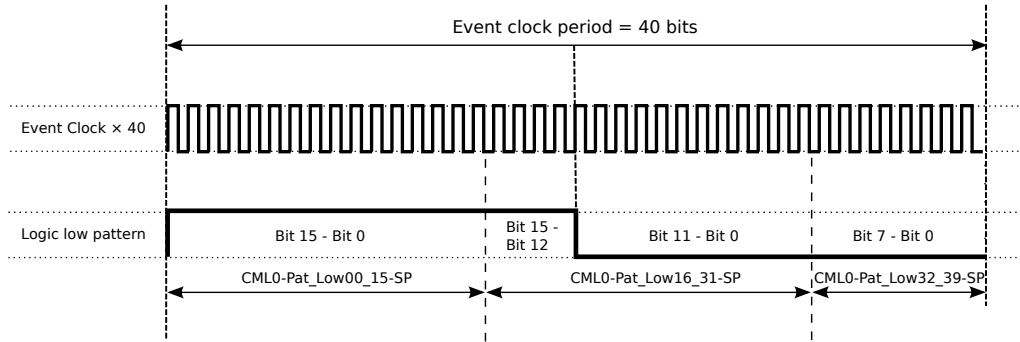

Figure 4: Generate the event clock
This tutorial demonstrates how to configure CML0 output of EVR-VME-300 to generate a clock signal, that has the same phase and frequency as the event clock. To achieve this, the **FrontUnivOut6** output source is set to **logic low** and the CML outputs are enabled. This causes the logic low pattern of the CML pattern mode to be continuously outputted. The configurable pattern, as seen in Figure 4, is 40 bits long and is sent out with a bit rate of 40 times the event clock rate. It is configured to replicate the event clock phase and frequency.
- CML0-Pat_Low00_15-SP=0xFFFF: Set logic low pattern bits 0-15. The Figure 4 shows that the bits 15-0 must be set as follows: 1111 1111 1111 1111, which translates to 0xFFFF. Each bit represents 1/40 of the event clock period.
- CML0-Pat_Low16_31-SP=0xF000: Set signal low pattern bits 16-31. The Figure 4 shows that the bits 15-0 must be set as follows: 1111 0000 0000 0000, which translates to 0xF000.
- CML0-Pat_Low16_31-SP=0x0: Set signal low pattern bits 32-39, as seen in Figure 4. Note, that only bits 32-29 (lower 8 bits) can be used.